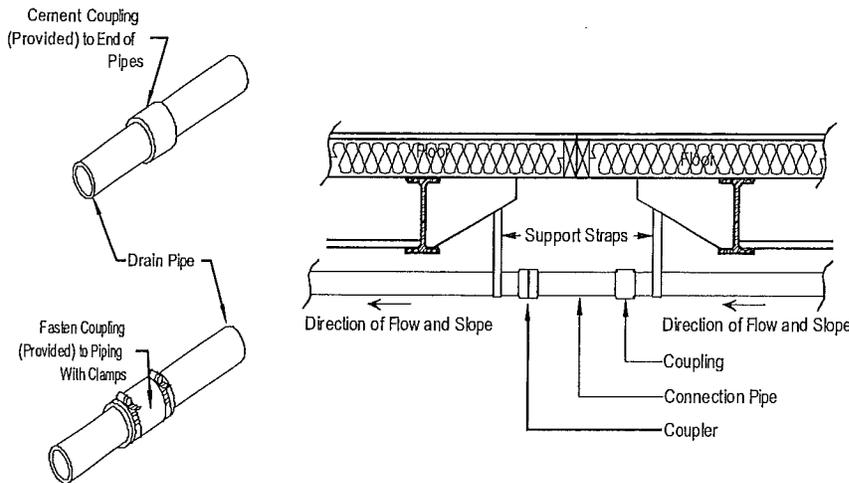
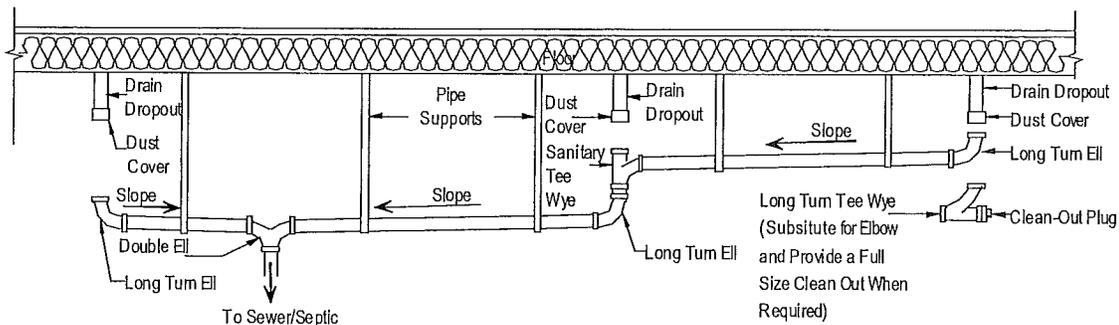

Figure 58. Drain crossover connection
Figure 59. DWV system
2. **Assemble pipes.** Using the drain schematic drawing provided with the home, begin assembling the DWV system starting at the location farthest from the sewer/septic connection and working towards the outlet, fastening the pipe with cement or adjustable screw-clamp connectors, if provided (Figure 58). As the system is assembled, support the piping with temporary blocking. Unless otherwise noted on the schematic diagram, provide a minimum 1/4 inch per foot slope towards the sewer/septic using a plumber's level. Where a slope of 1/4 inch per foot cannot be maintained, use a minimum slope of 1/8 inch per foot and install of a full-size clean-out at the uppermost point of the run (Figure 59).
5. **Install supports.** Install permanent drain line supports at a distance of four feet o.c. or less (see **Figure 58**, **Figure 60** and **Figure 61**).